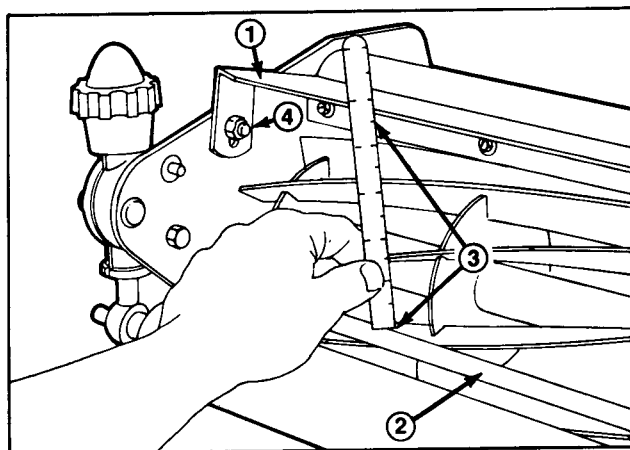

Figure 18
1. Set cutting unit in normal cutting position and measure distance from top of front crossbar to shield at each end of cutting unit (Fig. 18).
2. Height of shield from crossbar for normal cutting conditions should be 4-3/4 inches. Loosen capscrews and nuts securing shield to each side plate, adjust shield to correct height and tighten fasteners (Fig. 18).